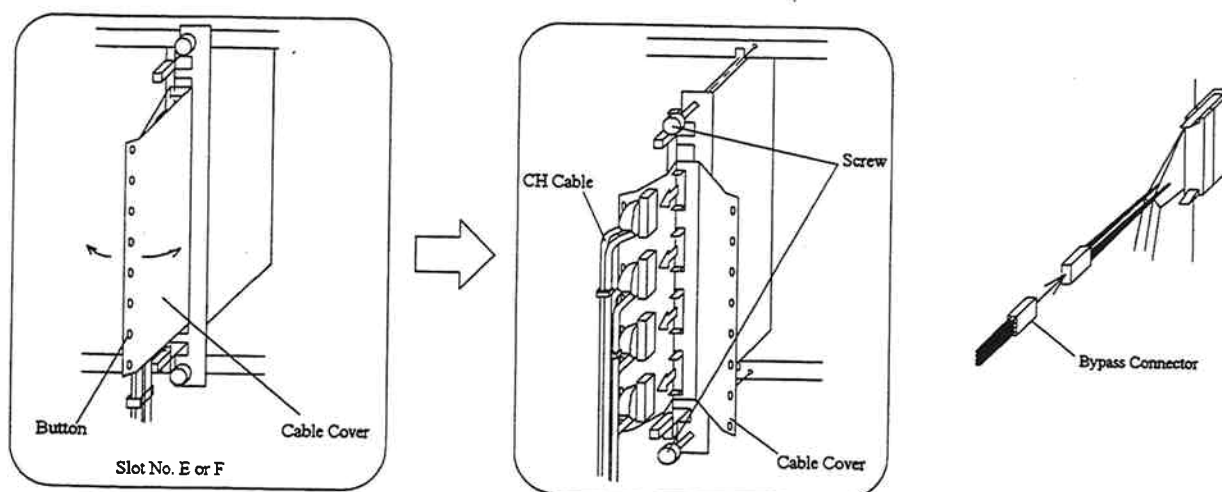

Fig. 3.7.5.2.2-2 Removal of PCB
- Insert the PCBs to the correct locations in the Logic Box. Refer to Table 3.7.5.2.2-2 and Fig. 3.7.5.2.2-3.